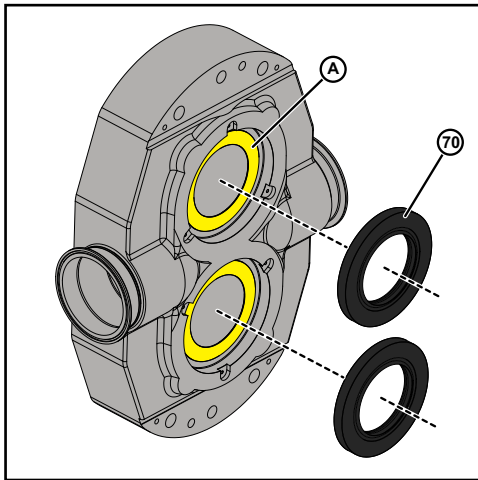

Figure 84 - Install Lip Seals
3. Apply a thin bead of silicone sealant (A) to the body, as shown in Figure 84.
4. Install the lip seals (70) into the pump body, as shown in Figure 84. Use the press tool to light press firmly and evenly into place.